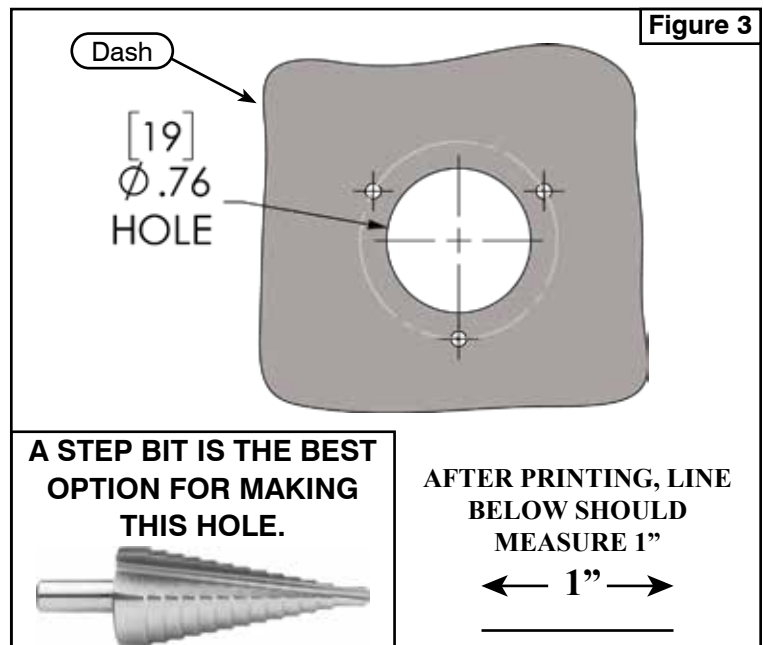

Figure 3
- The V-Plow Track Extension (106280) is required if you plow with tracks installed on your machine. For ease of installation, install the track extension now. Refer to **Step 3, Figure 3** of the 106280 installation manual. After completing that manual, resume this manual from **Step 6**.
7. Un-box 106180-DS (1) and 106180-PS (2) and place Driver and Passenger Wing next to each other. Insert Blade Center Pivot (4) into the gaps of the wings. See **Figure 3**. After lubricating the Center Pivot Pin (5), Slide the Center Pivot Pin (5) through all components. Secure the Center Pivot Pin (5) with Carriage Bolt (14.4) and Nut (14.5) through the top flange of the Pivot Pin and Center Piece as shown in **Figure 3**. *Lubricate this pin occasionally throughout the season, and at the start and end of each season.*